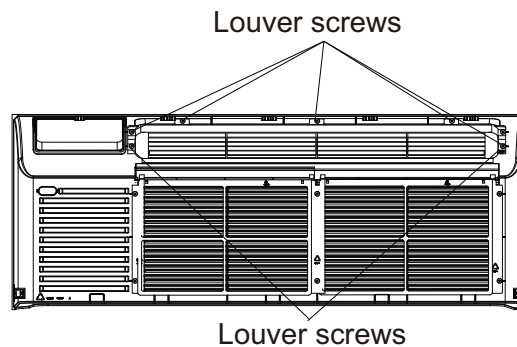

Fig.18–Backside of Front Panel
2. Remove louver screws that hold louver insert in place (from back side of front panel). See Fig.18.